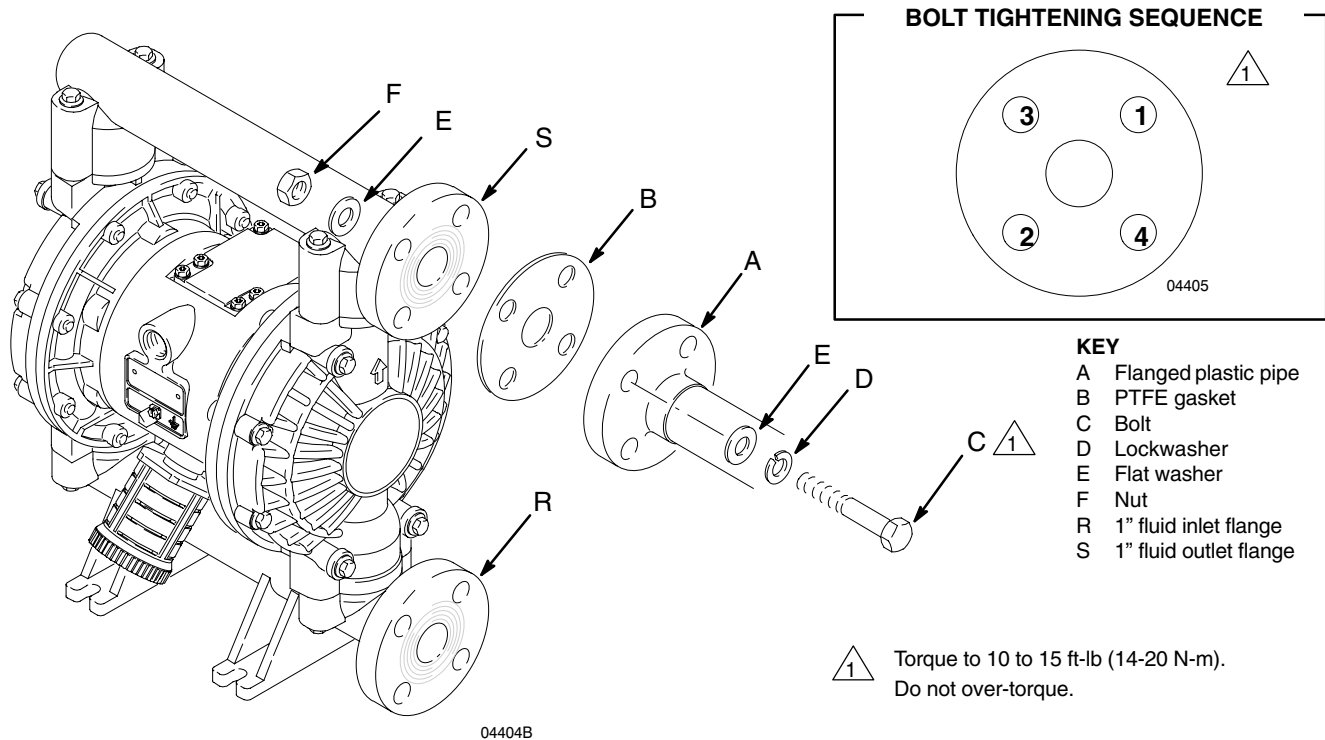

Fig. 3
1. Place a lockwasher and a flat washer on each bolt. Refer to Fig. 3.
4. Hold the nuts with a wrench. Refer to the tightening sequence in Fig. 3 and torque the bolts to 10 to 15 ft-lb (14 to 20 N-m). **Do not over-torque.**